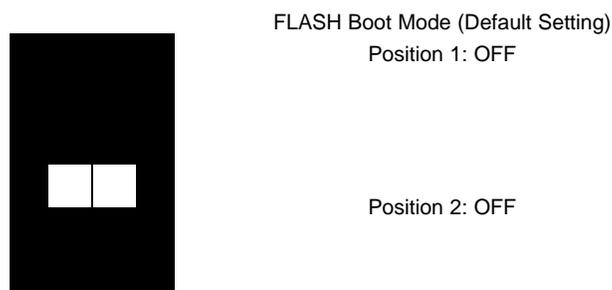

Figure 3.
2. Set switch SW2 to FLASH Boot Mode as described below (see Figure 3).